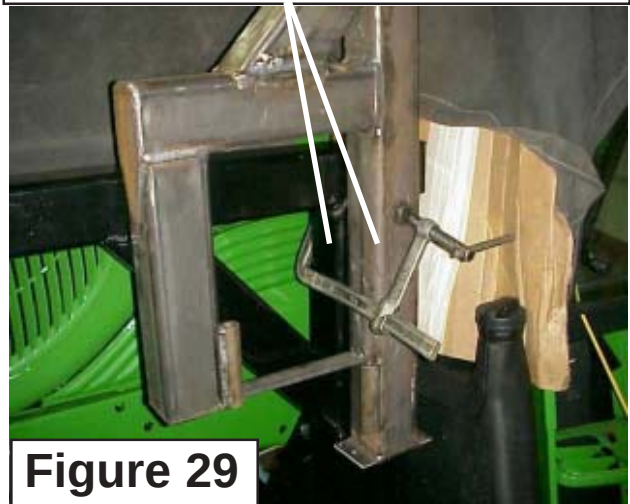

Figure 29
4. Lower High frame down over Tractor. This is a two man job in order to keep control of High Frame on both sides of tractor (**See Figure 25**). Lower the High Frame down over the Frame rails (**See Figure 26**) slowly, as it must straddle the Frame Rails (**See Figure 26**). Lower High Frame until the top of the High Frame is no higher than the cab of The Tractor; this is a general Rule and may vary. Another mark to look at is the Horizontal tube of the High frame should be parallel up and down with the Frame Rail Tube as shown on next page (**See Figure 29**).
6. Secure High Frame to Frame Rails. Secure the High Frame to the Frame rails with C-Clamps on both sides (**See Figure 29**). Do not weld anything at this time.
The height of the High frame should be no higher than the Cab of the Tractor. The horizontal tube of the High Frame should be just above the height of the horizontal Tube of the Frame Rail (**See Figure 29 & 30**)
Clamp the High frame to the Frame Rail when aligned and leveled. (**See Figure 29**). Leave the Hoist connected to the High frame for safety and additional support.